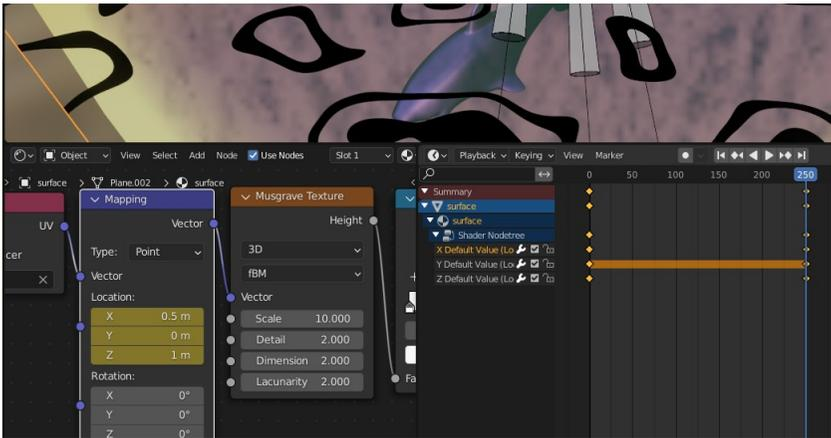

Figure 10-5 Node Layout and Timeline for Animated Shadows
2. In order to change the location of the texture in its third dimension, to represent time, you need to feed information into its Vector input. First select **Add ▶ Input ▶ UV Map** then create another node with **Add ▶ Vector ▶ Mapping** and take the UV map output via the mapping node to the musgrage texture input. The node layout is visible on the bottom left of Figure 10-5.